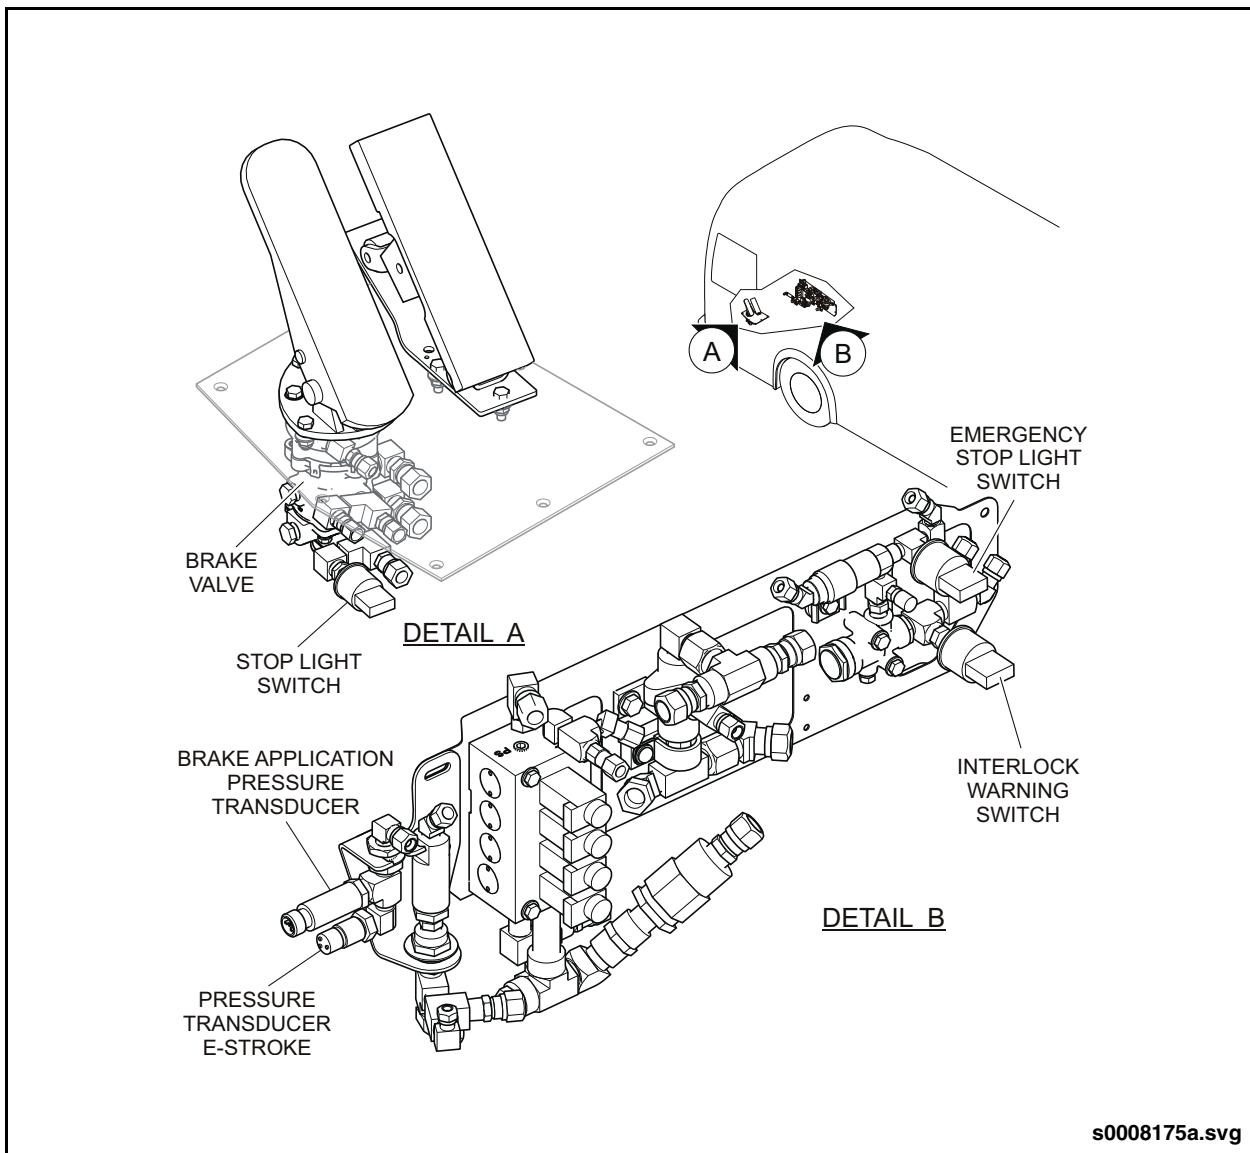

Fig. 8-22: Pressure & Stop Switches Installation
3. Open the access door below the driver's side window and locate the pressure switches installation. See "Fig. 8-22: Pressure & Stop Switches Installation" on page 78.